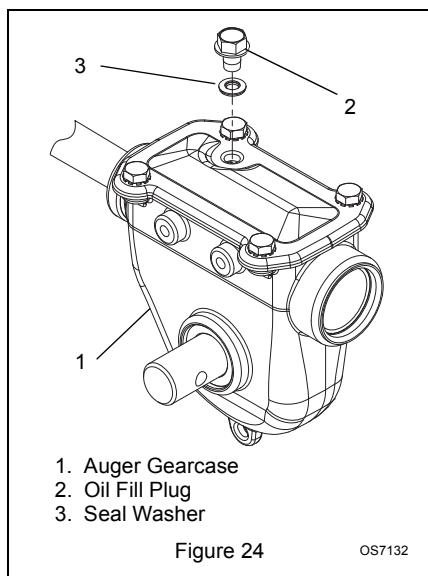

Figure 24
1. Remove oil fill plug and seal washer (Figure 24). Lubricant must be 2.38 – 2.63 in. (6.05 – 6.68 cm) from the flat surface of the gear case cover.
IMPORTANT: Be sure to install seal washer with rubber side down (Figure 24).